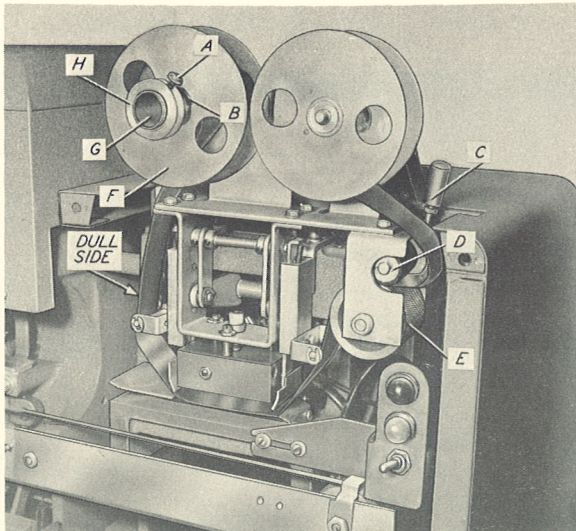

Figure 11
3. Place a roll of foil onto the core 11G so that it will unwind as shown in Figure 11. Replace the guide plate 11F, the spring 11B and the
4. Thread the foil as indicated in Figure 11.